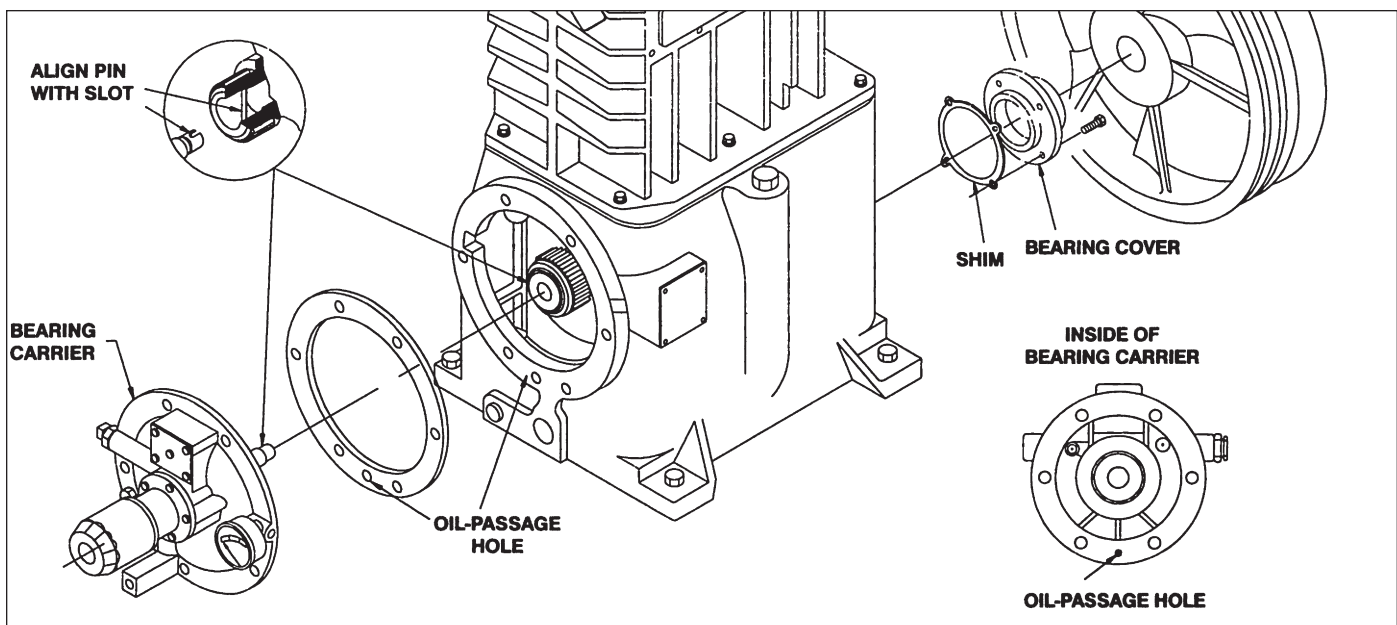

Figure 5.7.3: Bearing carrier replacement.
- pump shaft slot is aligned with the pin in the crankshaft. Make sure to install the bearing carrier gasket so the oil passage hole is not blocked (see figure 5.7.3).